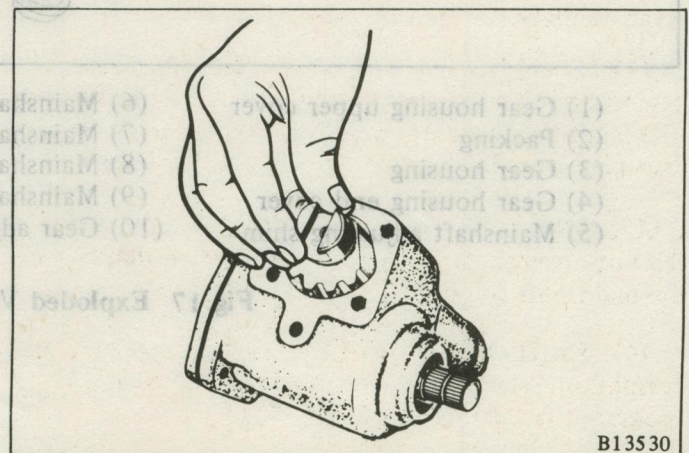

Fig. 21 Removing the Crossshaft
- (3) Rotate the mainshaft to place the crossshaft in neutral (straight ahead) position. Then pull the crossshaft out from inside the gear housing. (Fig. 21)